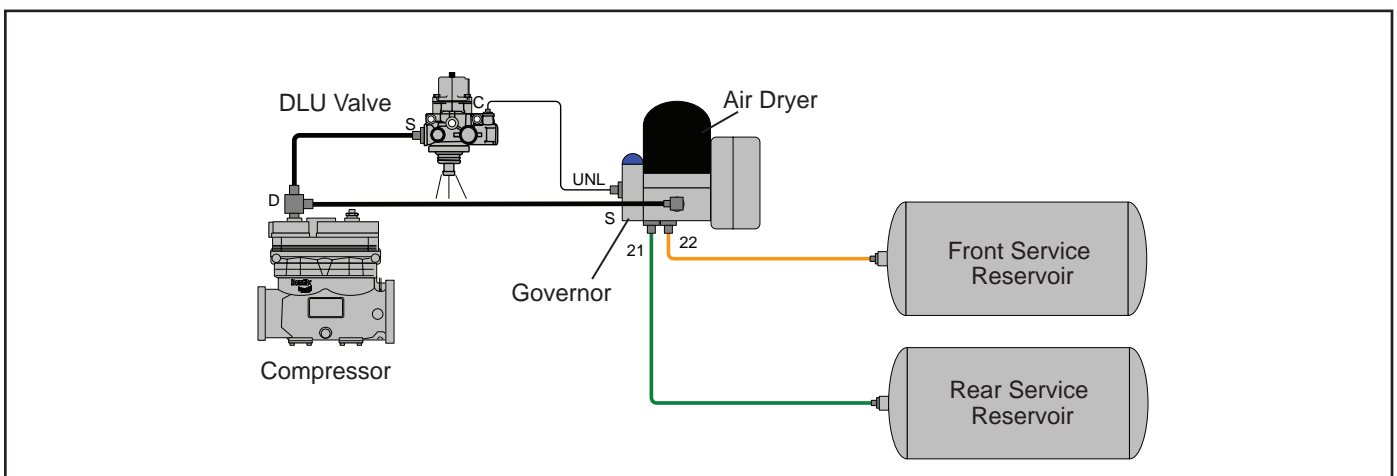

FIGURE 6 - TYPICAL BENDIX® 720cc (DLU-STYLE) TWIN CYLINDER COMPRESSOR AIR CHARGING SYSTEM
This Bendix® 720cc twin cylinder compressor is a “discharge line unloader” DLU-style compressor. The compressor pumps continuously, unlike some compressor designs which use an “unloader” mechanism in the compressor head to switch from a pumping mode to a non-pumping mode. With a DLU-style compressor, the control of air delivery to the vehicle’s air system is managed by using a separate discharge line unloader valve mounted in parallel with a turbo cut-off-style air dryer (see Figure 6).
COMPRESSOR AND AIR DRYER SYSTEM (REFER TO FIGURE 6)
Note: The Bendix 720cc DLU-style twin cylinder compressor does not contain components to unload the compressor. Therefore, the compressor pumps continuously. In most systems that utilize an air dryer, the governor and DLU-style air dryer are used to unload the system (e.g. air is not being delivered to the brake system reservoirs). When system unloading occurs, air from the compressor will typically flow out the exhaust port of the air dryer. *Refer to Figure 6.*
1. Make certain the unloader system lines (illustrated in Figure 6) are connected and leak free.